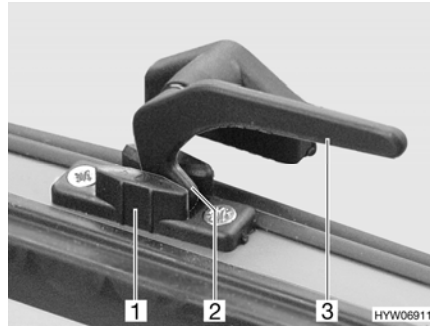

Fig. 70 Catch lever in "continuous ventilation" position
- "Continuous ventilation" (Fig. 70)
- Turn all catch levers (Fig. 70,3) a quarter turn towards the centre of the window.
- Return all catch levers to their initial position. The locking catch (Fig. 70,2) has to be moved into the recess of the window catch (Fig. 70,1).